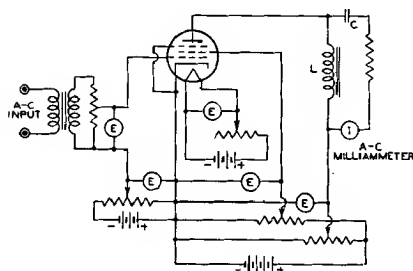

Fig. 43
Fig. 43 shows the fundamental circuit of a power output test for Class A operation of tubes. The diagram illustrates the method for a pentode. The a-c output voltage developed across the plate-load impedance (L) is indicated by the current meter. The current meter is isolated as far as the d-c plate current is concerned by the condenser (C). The power output can be calculated from the current reading and known load resistance. In this way, it is possible to determine the operating condition of the tube quite accurately.